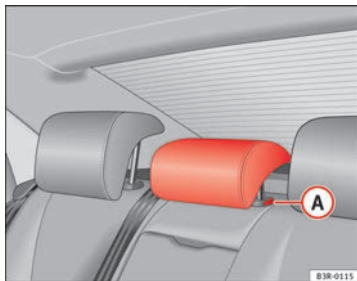

Fig. 113 Centre rear seat: Head restraints
- Press button **A** ⇒ fig. 113 and lower the head restraint.
- Press button **A** ⇒ fig. 113 and pull out the head restraint.